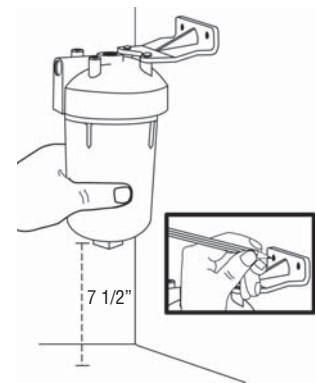

Figure 1
1. Position the filter by holding it against the side of the cabinet wall underneath the sink. Allow at least 7 1/2" beneath the filter to install cartridge. Determine a desirable location for the filter installation and inlet connection. Attach the mounting bracket to appropriate mounting bosses on filter head with the self-tapping screws. (Figure 1)